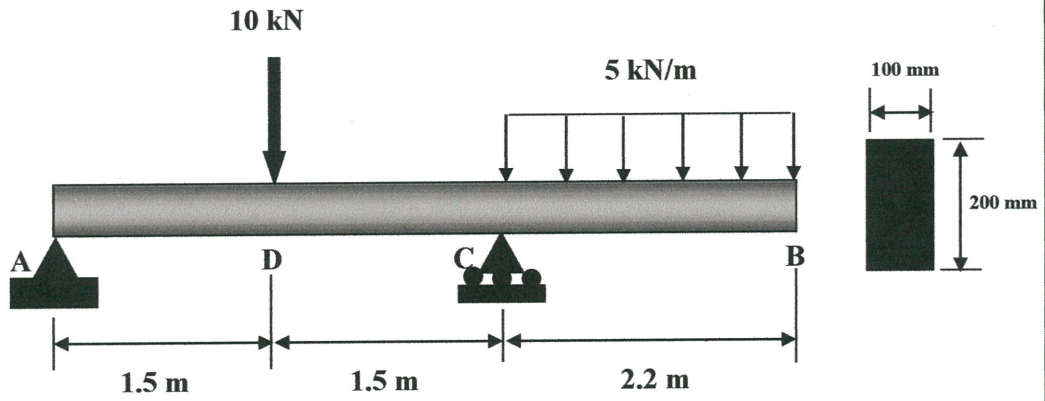

FIGURE Q1(b)
- Q1** (a) List **ONE (1)** example of:
- (b) **FIGURE Q1(b)** shows a beam AB with loaded and supported and is said to have an overhang CB. Show all the significant values: